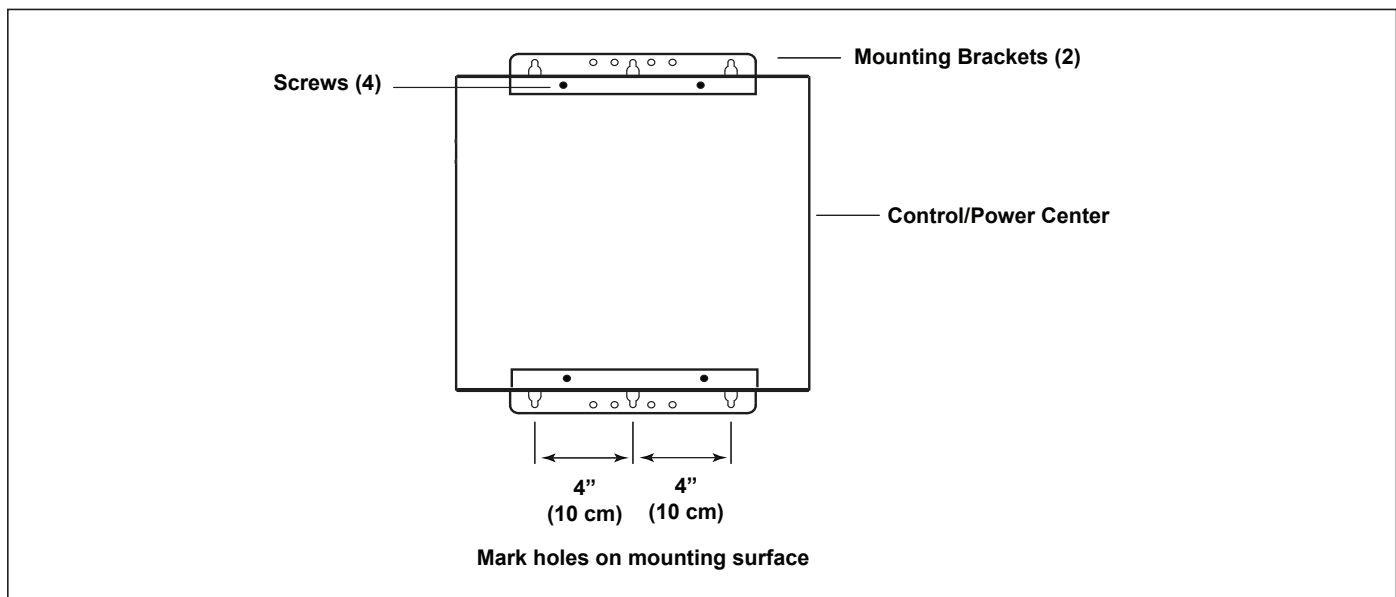

Figure 7. Power Pack Installation
1. Locate the control/power center at least five (5) feet or more away from pool/spa and five (5) feet off the ground. All national, state, and local codes are applicable.
2. The control/power center comes with two (2) full length, heavy duty mounting brackets *fastened* to the back of the power center during shipping. Remove the four (4) screws that are holding the two (2) brackets and the cardboard shipping cover in place (see Figure 7). Remove and discard the cardboard.
3. Using the top mounting bracket as a guide, mark three (3) holes on the mounting surface where the power center will be installed. Drill the holes in the mounting surface.
**NOTE** The three (3) mounting holes are 4" (10 cm) apart center to center.
4. Reinstall the mounting brackets to the top and bottom of the back of the control/power center using the four (4) screws that were removed in *Step 2*. Ensure that the brackets are rotated from the original shipping position.
5. Hang the power pack on the surface using the three (3) holes drilled in *Step 3*. With the control/power center in place, mark three (3) holes for the bottom bracket mounting.
**NOTE** As with the top brackets, the bottom bracket requires three (3) mounting holes. The three (3) mounting holes are 4" (10 cm) apart center to center.